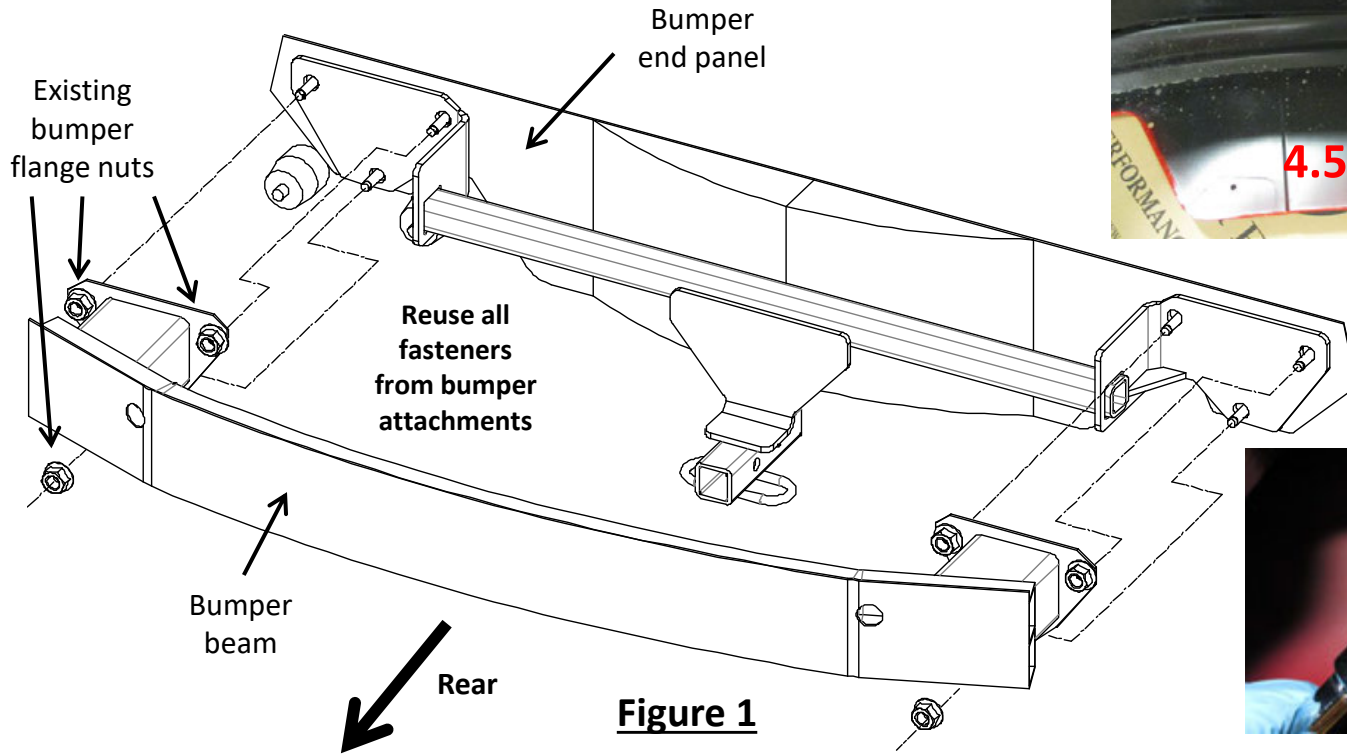

Figure 1
- Bumper beam removal** – use 15mm socket to remove (3) flange nuts from bumper plate each side. Gently remove bumper beam and set it aside.
- Hitch installation** – raise the hitch and hang it on the studs on the end panel. Raise the bumper beam to sandwich the hitch, see **Figure 1**. Reuse the bumper flange nuts and loosely fasten them.
3. Hitch installation – raise the hitch and hang it on the studs on the end panel. Raise the bumper beam to sandwich the hitch, see **Figure 1**. Reuse the bumper flange nuts and loosely fasten them.